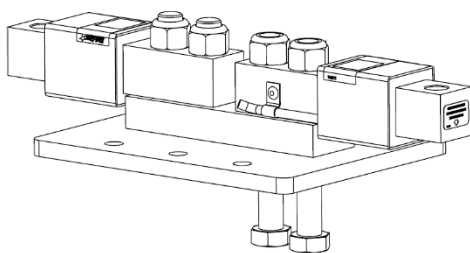

Fig. 7
10. Assemble the rear bottom base bracket (408756) and the load cells utilizing the 3/4" x 3 1/2" bolts and lock nut with the head of the bolt being flush with the bottom of the bracket. Install the load cells with the arrow pointed down. Refer to Figure 7.